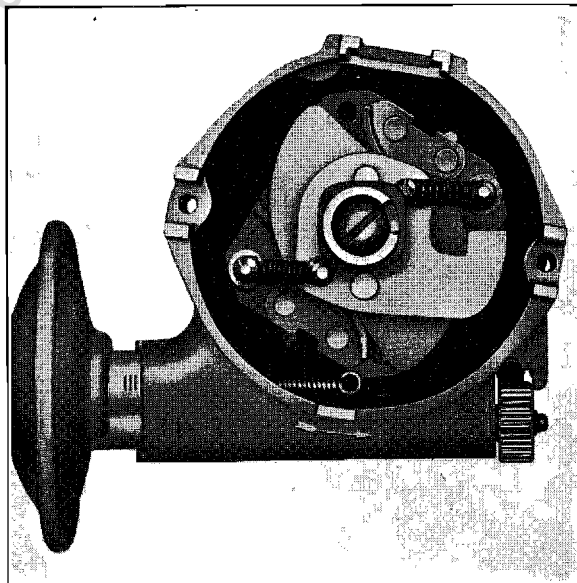

Fig. 6
7. Connect the springs to the pegs on the cam plate (see Fig. 6), and check the action of the weights in the fully advanced and retarded positions for freedom of movement and lightly lubricate all parts with engine oil.